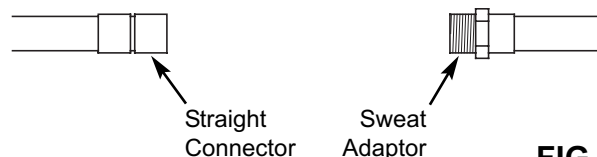

FIG. 14
3. Solder a sweat adaptor onto one of the pipe ends (See Figure 14).
4. Place, but do not solder, a straight connector onto the other pipe end (See Figure 14).